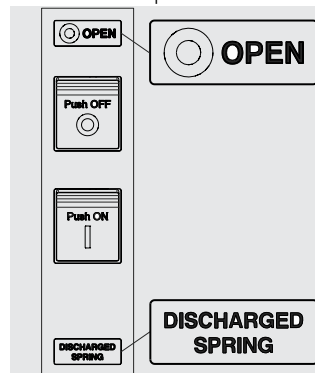

Figure 81
1. Circuit-breaker open with springs discharged (see Figure 81).